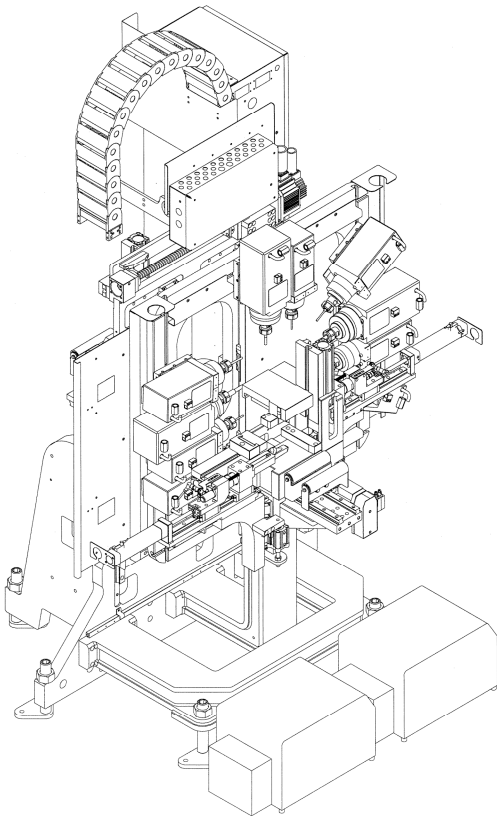

Fig. 03-03
3. **'MULTIMANDRINO_ALL' (Fig. 03-03):** CNC machining centre with 3 controlled axes, suitable for machining bars on all 4 sides.